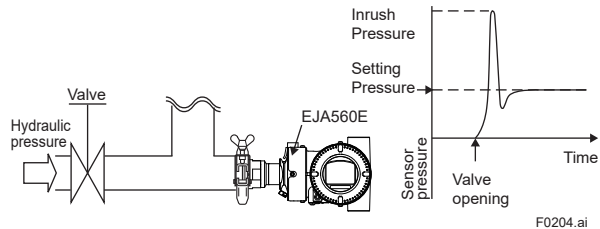

Figure 2.4 Inrush Pressure When Installed to the Bending Pipe
- Inrush pressure when installed to the bending pipe (Figure 2.4)